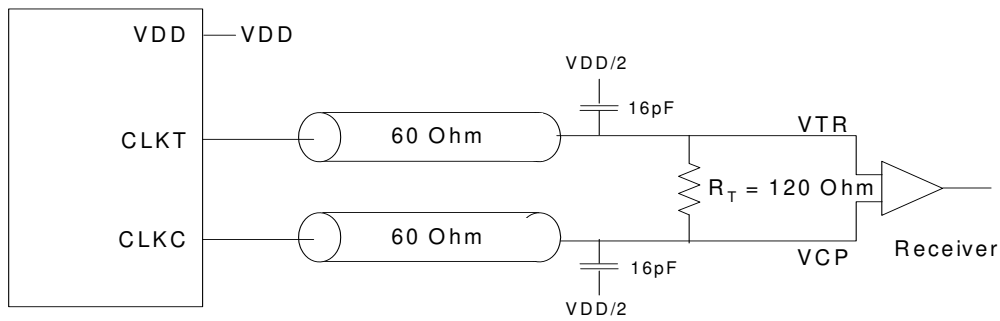

Figure 6. Differential Signal Using Direct Termination Resistor
- For load conditions see *Figure 6*.
- The value of V_{OC} is expected to be |V_{TR} + V_{CP}|/2. In case of each clock directly terminated by a 120Ω resistor. See *Figure 6*.
- All outputs switching loaded with 16 pF in 60Ω environment. See *Figure 6*.
- All differential input and output terminals are terminated with 120Ω/16 pF as shown in *Figure 6*.